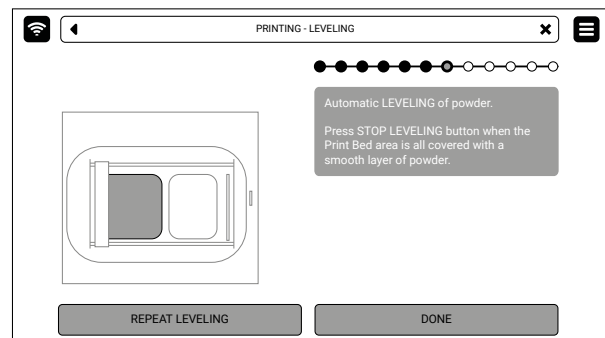

Fig. 6.9 Repeat the Leveling process or move on.
3. Press **STOP LEVELING** if the surface of the powder in the print chamber is smooth or wait until the Recoater completes the process by itself. You can repeat the process by pressing **REPEAT LEVELING**. Press **DONE** (fig. 6.9).